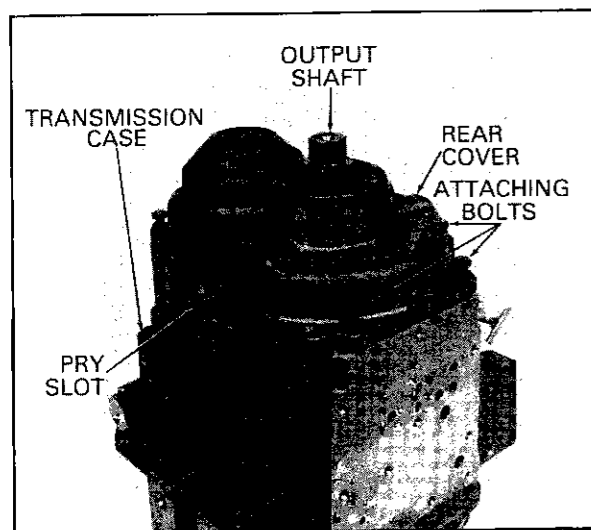

FIG. 41 REAR COVER INSTALLATION
45. Apply a  $\frac{1}{16}$  inch (1.6 mm) bead of Loctite Number 515 sealing compound to the face of the case. Place the case cover onto the face of the case. Install the attaching bolts and tighten to 32-37 pounds-feet (43-50 N·m) (Fig. 41).